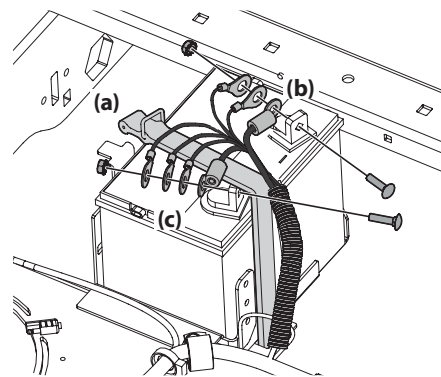

Figure 35
2. Remove the bolt and nut securing the negative cable grouping (b) to the negative battery post (marked NEG (-)). Move the cable grouping away from the negative battery post. See Figure 35.
3. Remove the bolt and nut securing the positive cable grouping (c) to the positive battery post (marked POS (+)). See Figure 35.
4. Unhook the strap (a) holding the battery in place. See Figure 35.